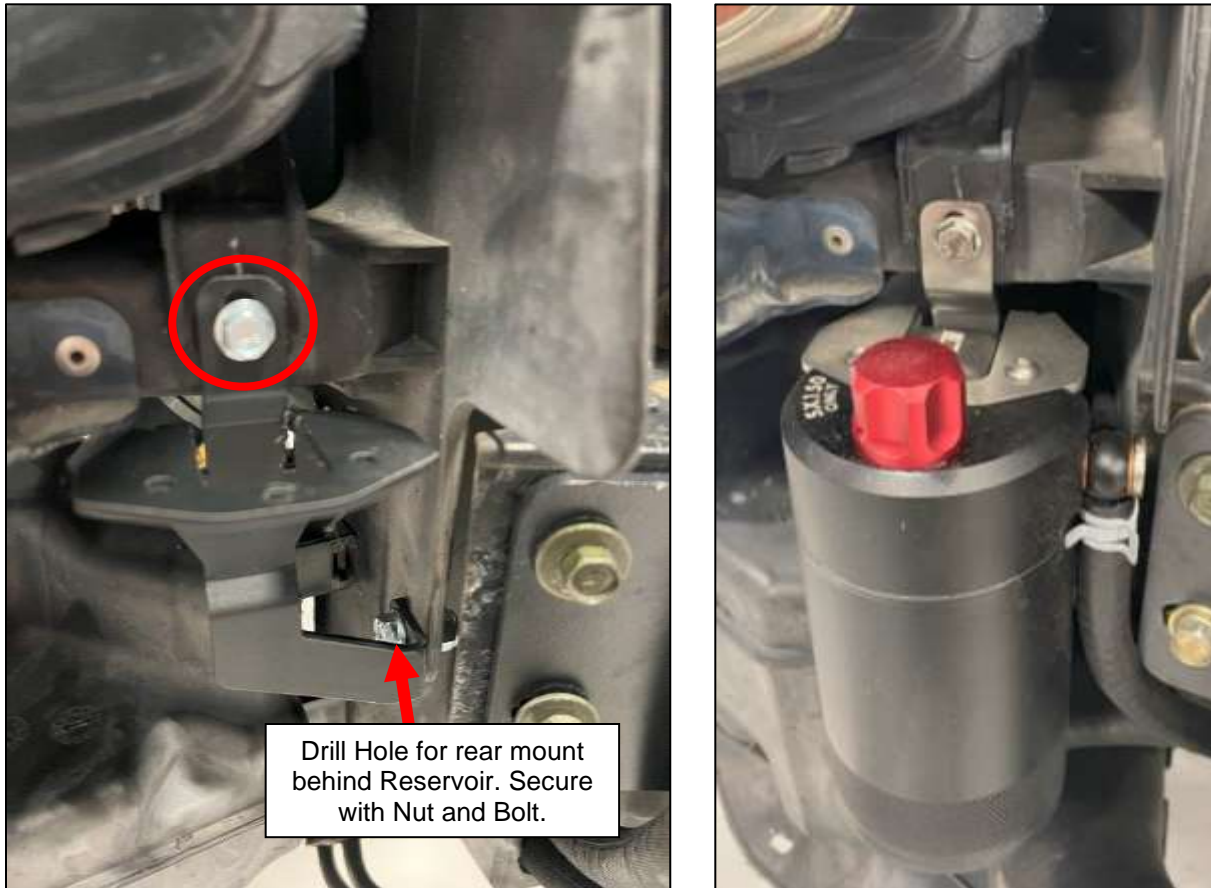

Figure 53
- b. **G35 Owners:** The Reservoir Bracket (#86) comes with Hardware. Mount the Top of the Reservoir under the Passenger headlight as shown below. The rear Mount will need to be marked on the Core Support and drilled. After drilling, secure the mount with the included Nut and Bolt. *Figure 53.*